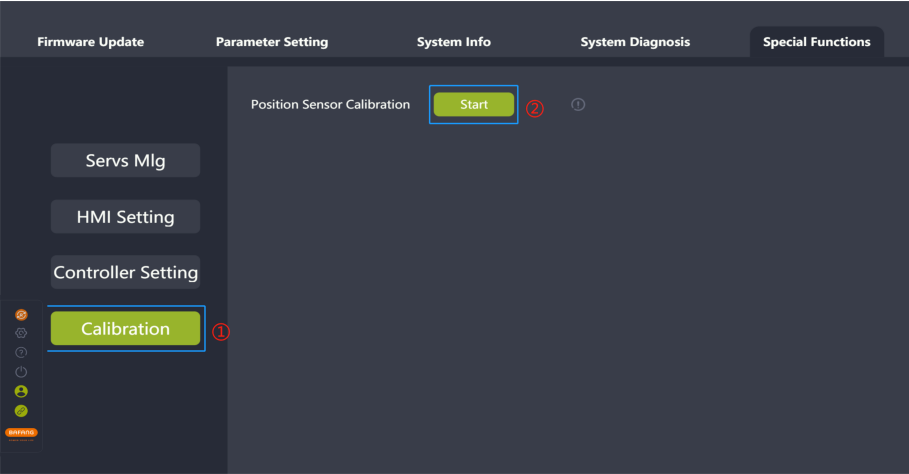

Fig 8-8 Position sensor calibration
2. Click "Start" next to the tag "Position Sensor Calibration" to start the calibration (Figure 8-8).